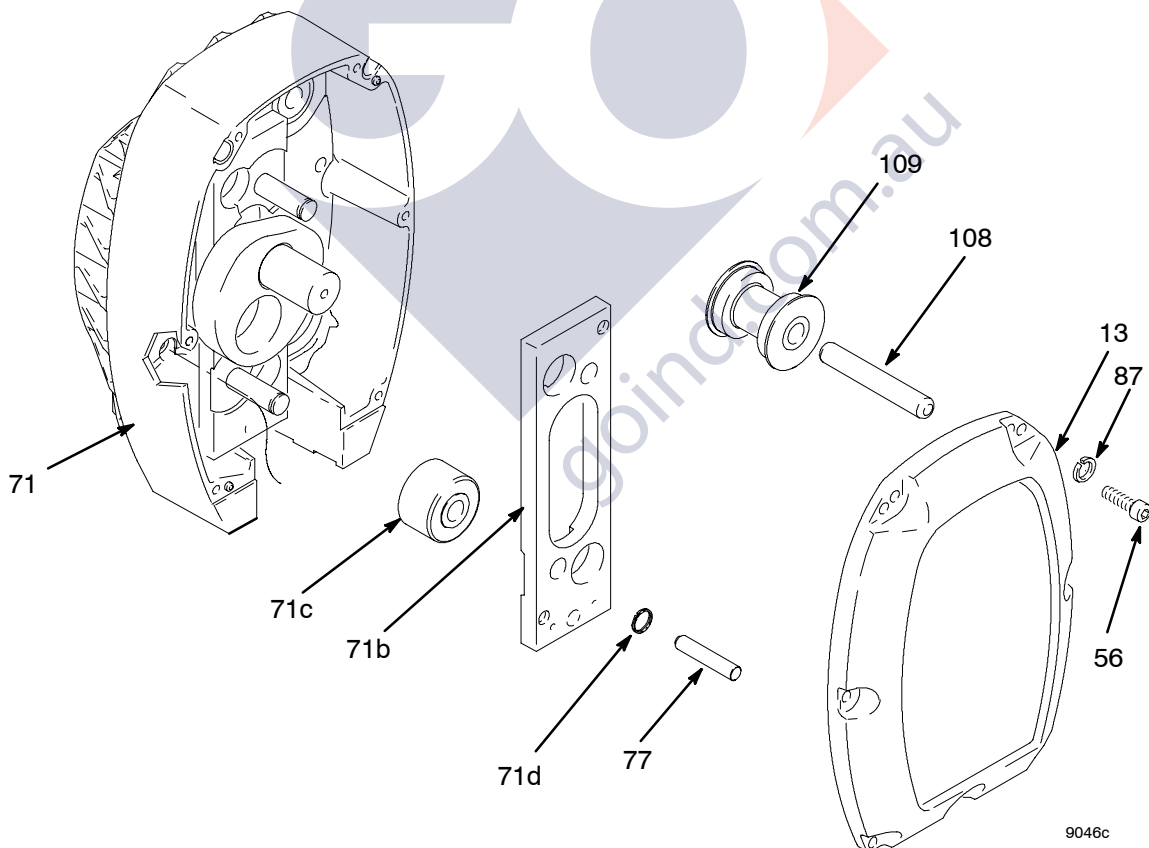

Fig. 5
3. Fig. 5. Remove six cap screws (56), lock washers (87) and cover assembly (13).